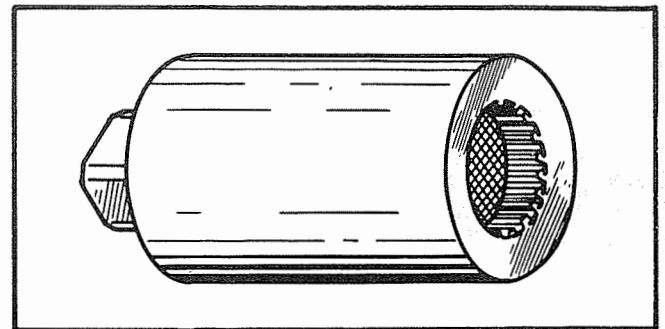

Figure 7-105. Fuel Injection Tube (in Supercharger Front Housing) Turning Wrench
d. Use wrench 807241 (figure 7-105) to turn the tube so that the bent end will clear the supercharger rear housing.